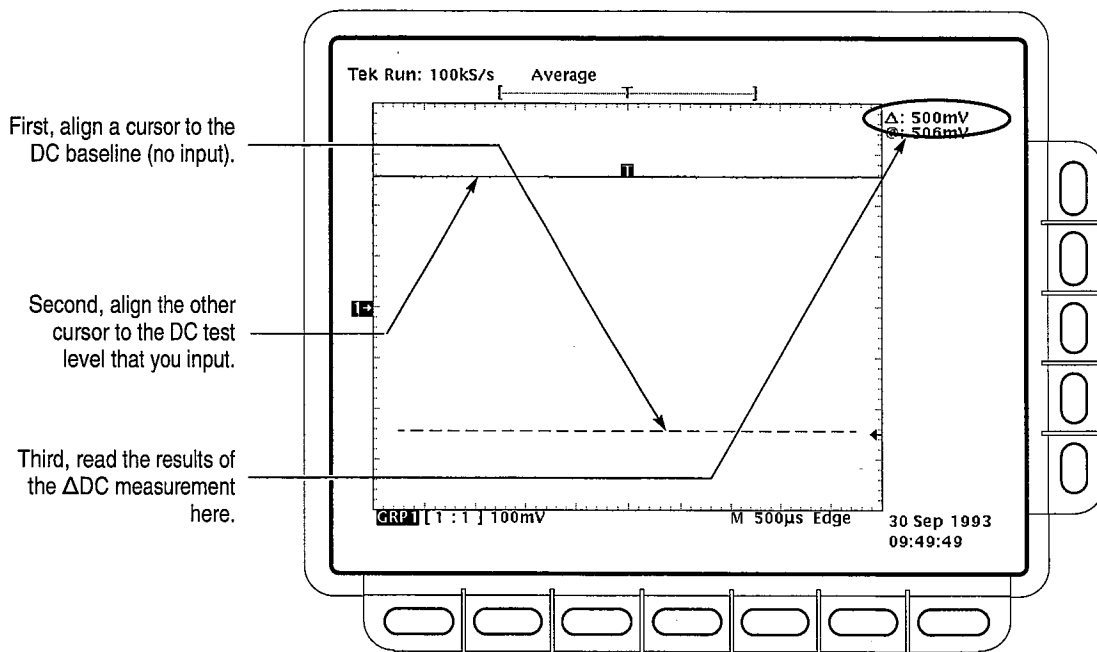

Figure 1-7: Measurement of DC Gain Accuracy
- f. Read the measurement results from the delta ( $\Delta$ ) readout, not the absolute (@:) readout. (See Figure 1-7.) Check that the  $\Delta$ : readout on screen is between 480 mV and 520 mV